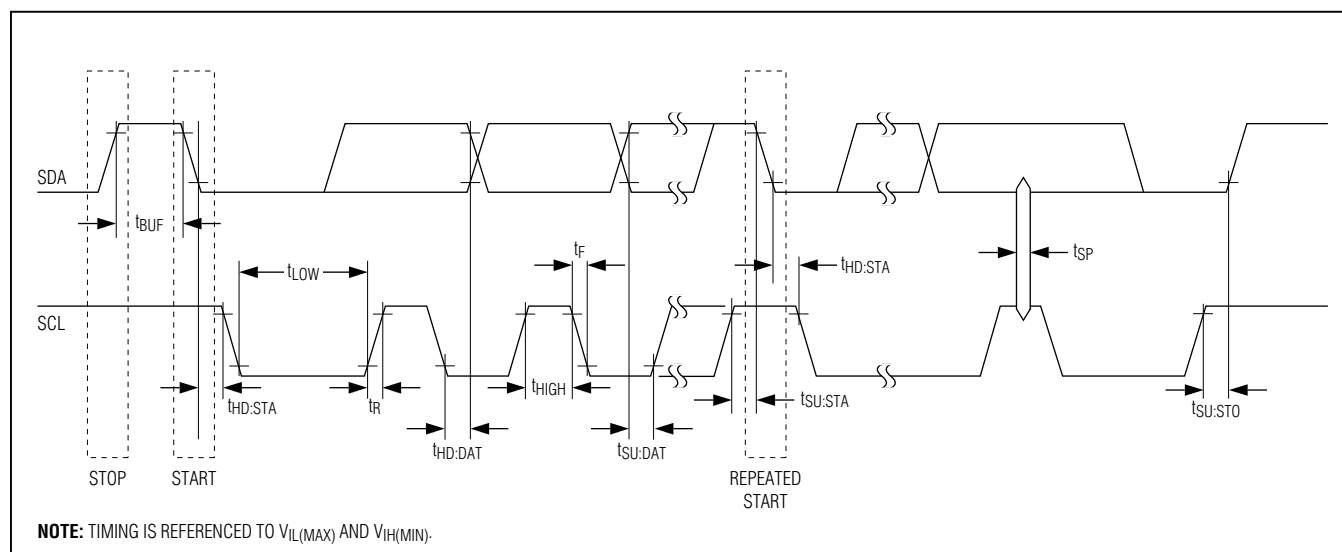
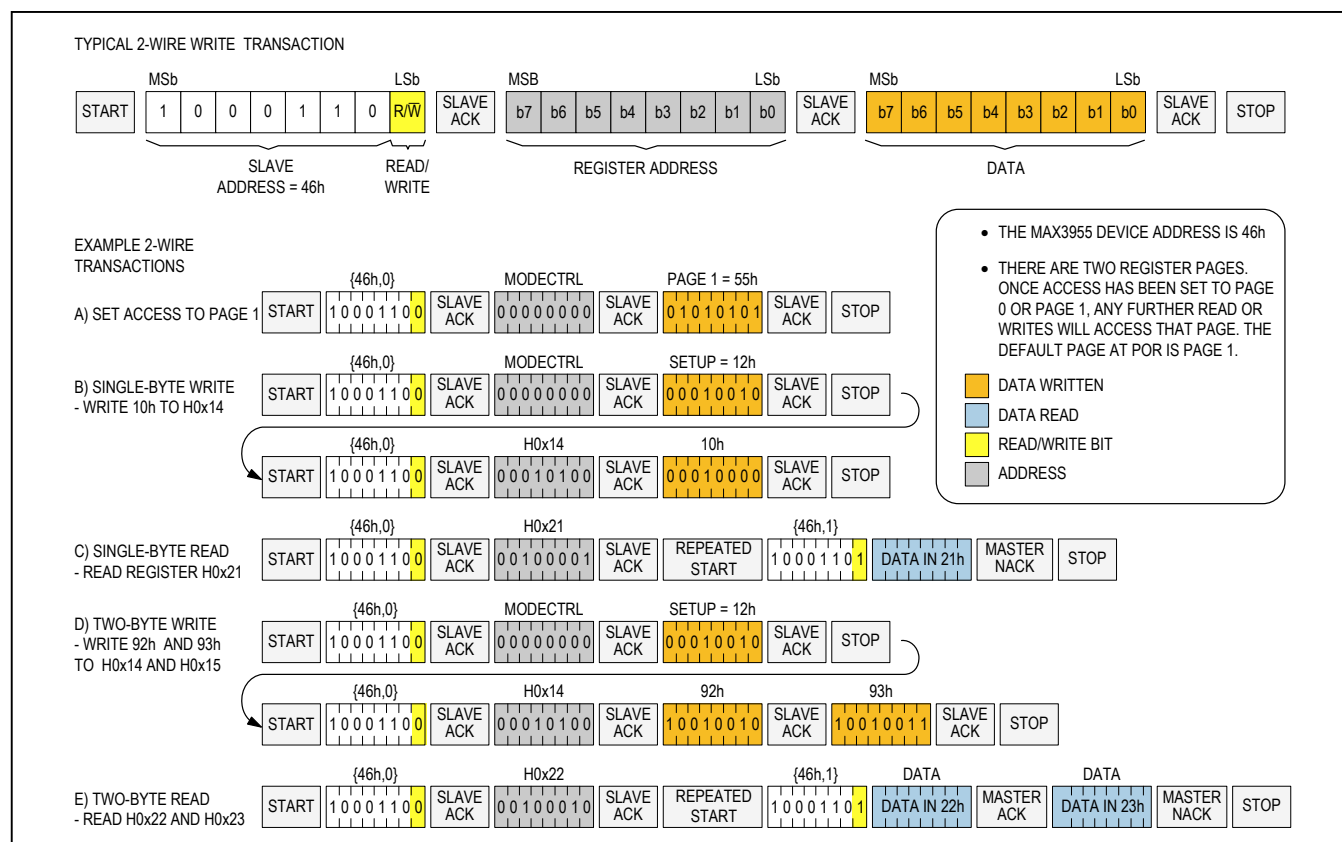

Figure 5. 2-Wire Timing Diagram
Figure 6. Example 2-Wire Protocol
**START Condition:** A START condition is generated by the master to initiate a new data transfer with a slave. Transitioning SDA from high to low, while SCL remains high, generates a START condition. See Figure 5 for applicable timing.
**STOP Condition:** A STOP condition is generated by the master to end a data transfer with a slave. Transitioning SDA from low to high, while SCL remains high, generates a STOP condition. See Figure 5 for applicable timing.
**Repeated START Condition:** The master can use a repeated START condition at the end of one data transfer to indicate that it will immediately initiate a new data transfer following the current one. Repeated STARTs are commonly used during read operations to identify a specific register address to begin a data transfer. A repeated START condition is issued identically to a normal START condition. See Figure 5 for applicable timing.
**Bit Write:** Transitions of SDA must occur during the low state of SCL. The data on SDA must remain valid and unchanged during the entire high pulse of SCL plus the setup and hold time requirements (Figure 5). Data is shifted into the device during the rising edge of the SCL.
the 9th bit. A device performs a NACK by transmitting a one during the 9th bit. Timing for the ACK and NACK is identical to all other bit writes (Figure 5). An ACK is the acknowledgment that the device is properly receiving data. A NACK is used to terminate a read sequence or as an indication that the device is not receiving data.
See Figure 5 for an example of 2-wire timing and Figure 6 for an example of 2-wire protocol.